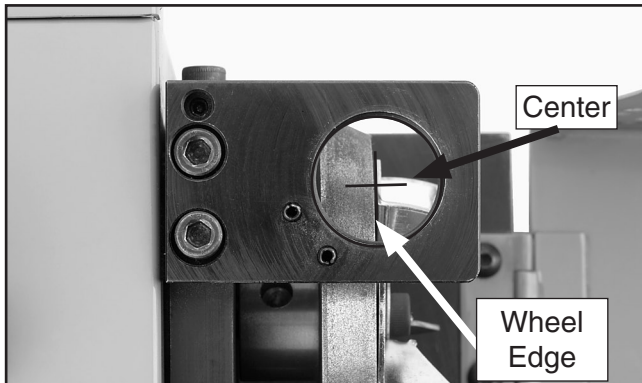

Figure 24. Rear trimming hole center over grinding wheel edge (cover removed for clarity).
2. Tighten the cap screws, making sure the center of the rear trimming hole is over the edge of the grinding wheel, as shown in **Figure 24**.